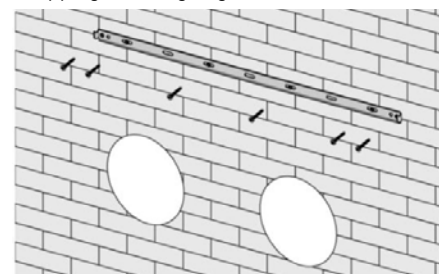

Figure 4
3. Drill the marked holes using a 5/16" drill bit and insert wall plugs. Secure the wall bracket into position using the screws provided. Use anchors if needed to hold 85 lbs. so there is no risk of the unit tipping or falling. Figure 4